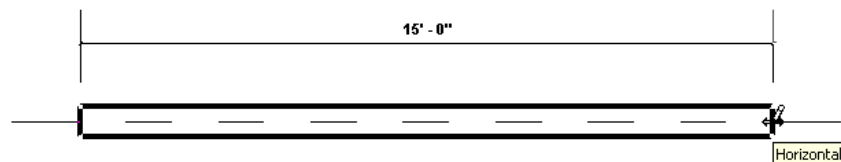

Figure 2-24 Sketching a horizontal wall segment
4. Move the cursor near the horizontal axis so that the dashed line appears inside the wall segment, as shown in Figure 2-24. Notice the two-sided arrow that is attached to the end point of the wall. This indicates that the wall segment being sketched is horizontal. A tooltip indicating the horizontal alignment is also displayed.